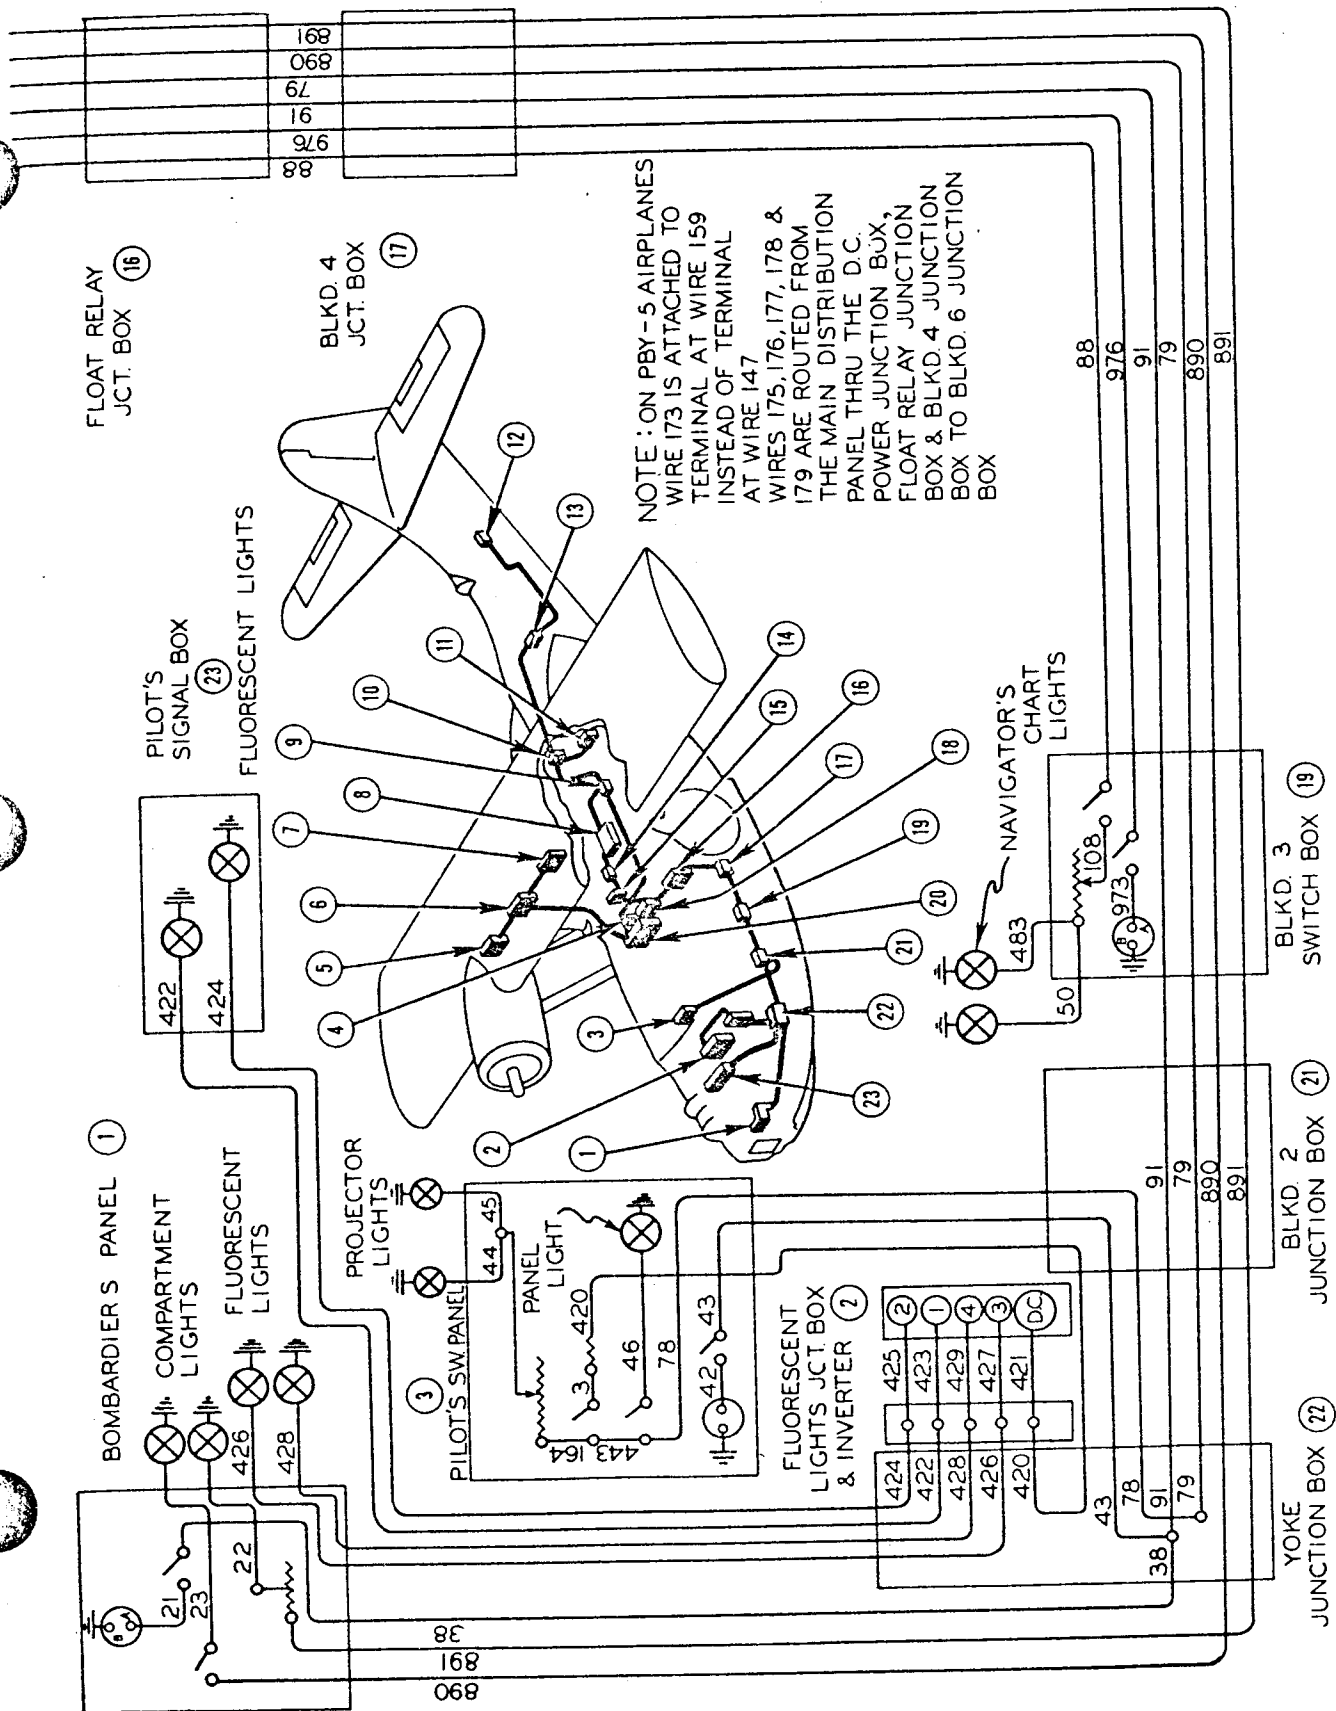

Figure 234—Interior Lights and Utility Outlets Circuit
(a) DESCRIPTION. (See figure 234.) — This circuit provides for control and protection of the compartment lights, projector lights, table lights, fluorescent lights, panel lights, MK 8 compass light, and utility outlet receptacles.
1. Check wires and terminals in junction boxes shown on wiring diagram. (See figure 234.)